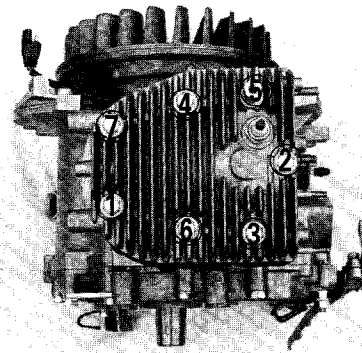

Figure 6-25
2. Follow cylinder head bolt torque sequence, tighten evenly, 5 ft.-lbs. at a time, to 16-18 ft.-lbs. torque (Figure 6-25).